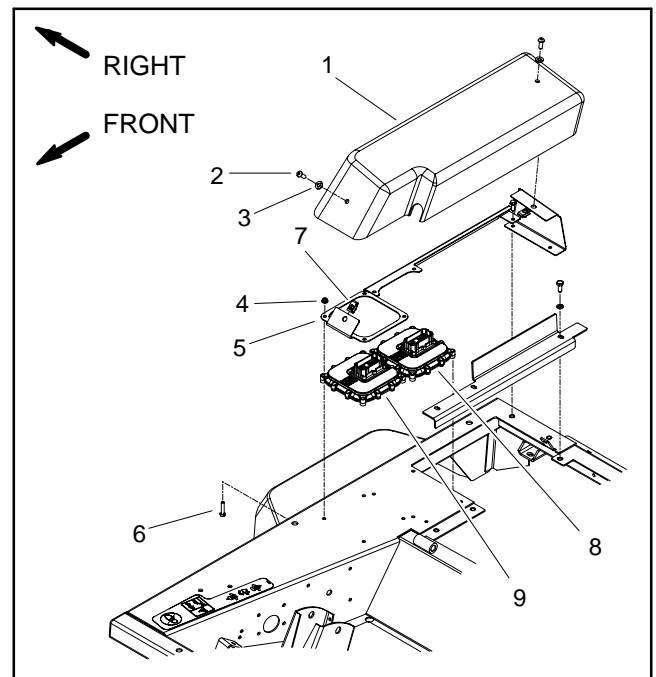

Figure 100
2. Remove controller cover and then support bracket from the right side of the operator seat (Fig. 100).
5. Install support bracket and controller cover to the right side of the operator seat (Fig. 100).